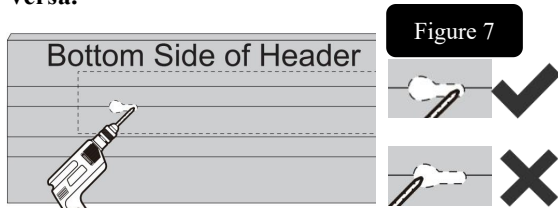

Figure 7
Step 7: Predrill 6 pilot holes on the header using 1/8" drill bit. **Note:** Predrill the holes on the retention slot. Do not predrill the holes on clearance hole (Figure 7).